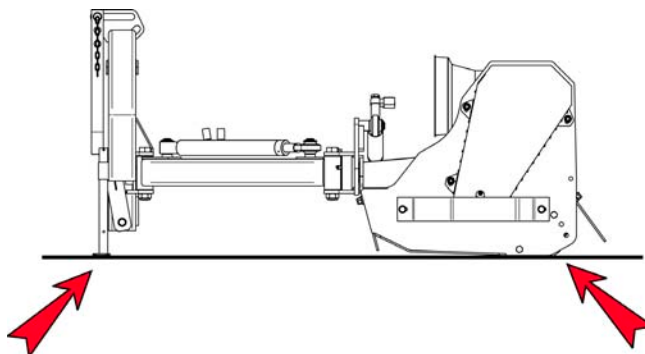

FIG. 4.18
- Pull out and fix the support foot and position the machine on a flat surface (FIG.4.18);